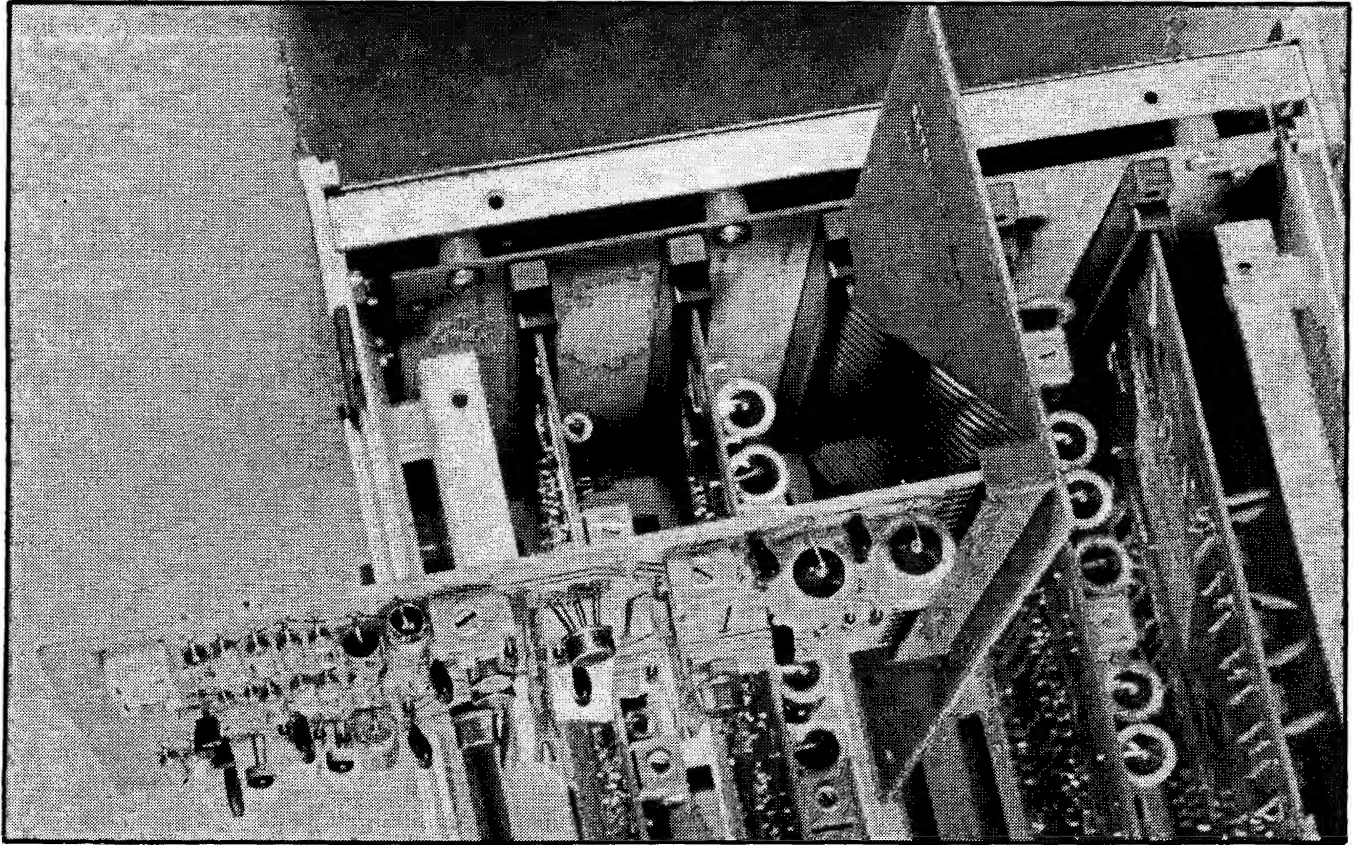

Figure 6-2. EXTENDER CARD INSTALLATION
6-4. To install a printed circuit board on the Extender Card as shown in Figure 6-2, proceed as follows:
- c. Install the Extender Card in the Mother Board connector as shown in Figure 6-2.
- d. Install the printed circuit board in the Extender Card connector as shown in Figure 6-2.